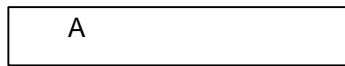
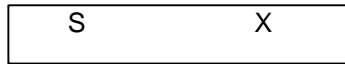

Fig. 10
Fig. 11
Shifts to the Key Inspection Mode when depressed “↵” key. (Fig. 10 Display)
The “CODE” key, “(↵)” key, “BS(⊗)” key, “←”, “→” key (1st row) L → R, (2nd row) R → L, (3rd row) L → R, 4th row) R → L, (5th row) L → R are depressed sequentially. The key to depress is displayed (refer to Fig. 10) and the key to depress next is displayed when depressed correctly while the key to depress next and “X” are displayed when depressed erroneously. (Fig. 11 Display)